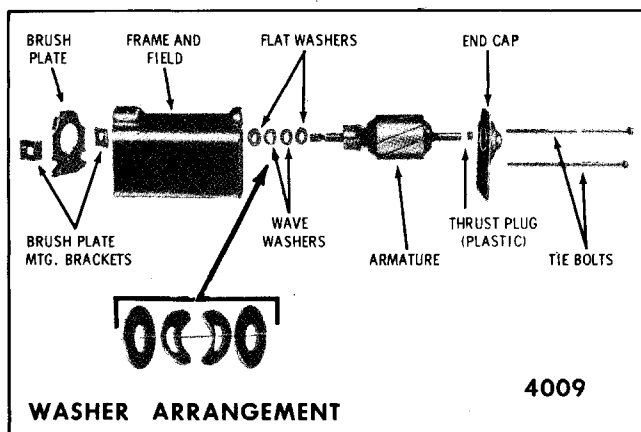

Fig. 2-39-Wiper Motor - Exploded View
2. Remove motor tie bolts (Fig. 2-39).
in wiper, install washers as shown in Figure 2-39.